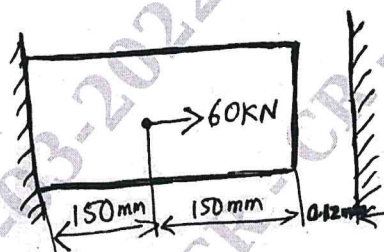

Fig Q4(b)
b. Consider a bar shown in Fig Q4(b), An axial load  $P = 60\text{kN}$  is applied at its mid point. Using penalty method of Boundary condition, determine the nodal displacement and Reactions.